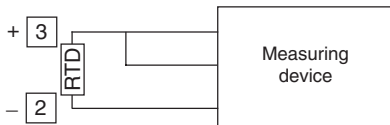

Fig. 13
- 1) Measure the temperature close to terminals 2 and 3 using an instrument with accuracy better than 0.1 °C (see Fig. 13).